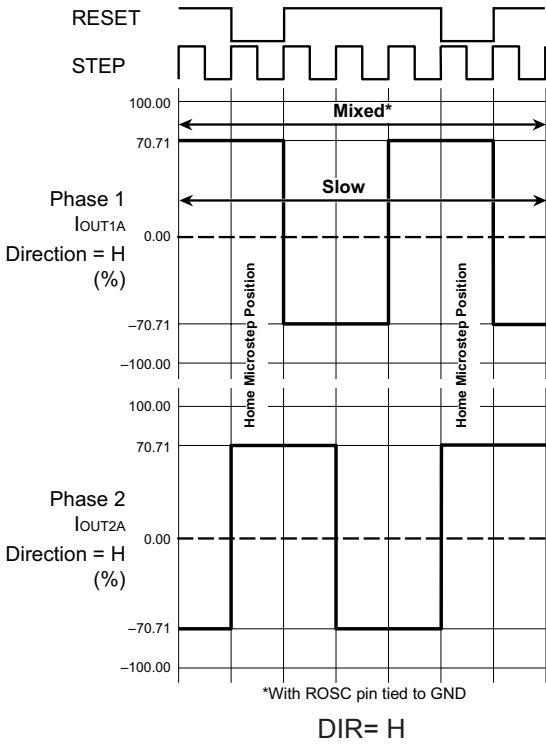

Figure 8: Decay Mode for Full-Step Increments
At power-on or reset, the translator sets the DACs and the phase current polarity to the initial Home state (shown in Figures 8 through 11), and the current regulator to Mixed Decay Mode for both phases. When a step command signal occurs on the STEP input, the translator automatically sequences the DACs to the next level and current polarity. (See Table 2 for the current-level sequence.) The microstep resolution is set by the combined effect of the MSx inputs, as shown in Table 1.
according to the ROSC configuration and the step sequence, as shown in Figures 8 through 11. During Mixed decay, when the trip point is reached, the A4984 initially goes into a fast decay mode for 31.25% of the off-time,  $t_{OFF}$ . After that, it switches to Slow decay mode for the remainder of  $t_{OFF}$ . A timing diagram for this feature appears on the next page.
**Reset Input ( $\overline{RESET}$ ).** The  $\overline{RESET}$  input sets the translator to a predefined Home state (shown in Figures 8 through 11), and turns off all of the FET outputs. All STEP inputs are ignored until the  $\overline{RESET}$  input is set to high.
**Mixed Decay Operation.** The bridge can operate in Mixed Decay mode, depending on the step sequence, as shown in Figures 8 through 11. As the trip point is reached, the A4984 initially goes into a fast decay mode for 31.25% of the off-time,  $t_{\text{OFF}}$ . After that, it switches to Slow Decay mode for the remainder of  $t_{\text{OFF}}$ . A timing diagram for this feature appears in Figure 7.